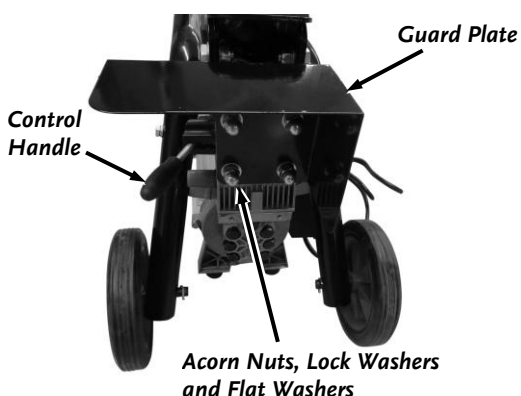

Figure 3
3. Install the Guard and secure with the acorn nuts, lock washers and flat washers using a 16mm wrench (**Figure 3**).